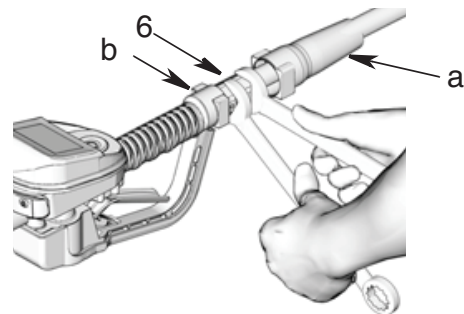

FIG. 7
2. Slide the swivel boot (a) back, over the hose, small end first to access the swivel fitting (6) (FIG. 7).
3. Apply thread sealant to the male threads of the hose fitting. Thread the hose fitting (b) into the metered dispense valve swivel (6). Use two wrenches to tighten securely (FIG. 7).